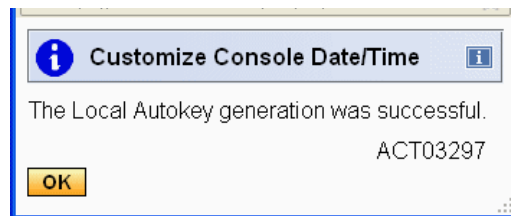

Figure 1-10 Autokey successfully generated
3. Select **OK** once the successful message ACT03297 is displayed; see Figure 1-10.